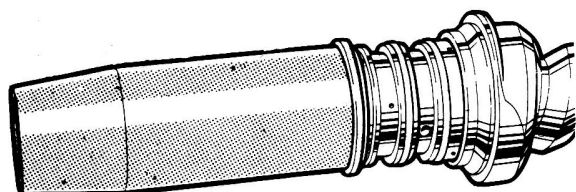

Fig.11.48. Fitting a teflon ring using the valve seal expander
- 2 Two special tools are used for fitting the rings, a Valve Seal Expander (Tool No. J 32) and a Valve Seal Compressor (Tool No. J 33), (Figs.11.48 and 11.44) you may be able to borrow these to do the job but if you are unable to do so, we suggest that you have the rings fitted in a workshop holding the necessary equipment as, without them, some difficulty may be experienced in expanding the rings to fit them without damage.